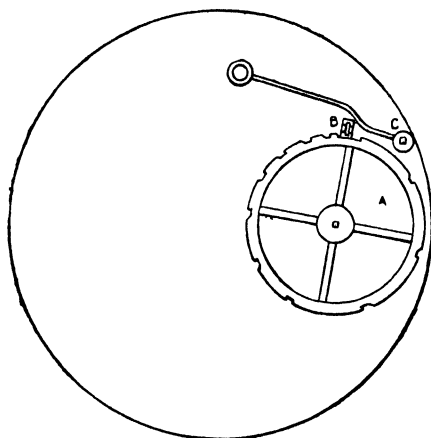

**Fig. 65.—Front View of Locking-plate Striking Work**
**French Locking-plate Striking Work.**—Two distinct kinds of striking work are in use in French clocks. The first, the "locking-plate" striking, is somewhat similar to the American striking mechanism. Fig. 65 is a view under the dial showing the discharging work, and Fig. 65A is a back view showing the locking plate.\*
Taking Fig. 65 first, A is the cannon pinion which turns once in an hour. In it are two pins, B, opposite each other. These two pins as they revolve lift the
Turning to Fig. 65A, A is the locking plate which is mounted outside the back plate, upon the extended arbor of the wheel J (Fig. 65), and turns once in twelve hours.
is a projecting stud, which is fixed to the arm which locks the striking train shown in Fig. 65 by the dotted lines. B comes through an opening in the back plate and rests upon the edge of A. When it is in a hollow of the locking plate, it prevents the wheel F (Fig. 65) revolving, but so long as B rests upon a high portion of A, the wheel F is free to revolve. The pins in the pin wheel are so arranged that one revolution of the wheel F is equivalent to one blow of the hammer.
strike. First of all the striking train is locked by the pin in F (Fig. 65) resting on the locking arm fixed to I, and B (Fig. 65A) is in a hollow of the locking plate. The pin in the warning wheel E is at the top, as shown in Fig. 65, and half a revolution from the warning lever D.
There it all rests until the pin B, still advancing, at last passes the point of the lever C, which lever then drops, and, of course, D also. This releases the warning wheel, and the striking runs and continues to do so until the piece B (Fig. 65A) drops into the next hollow in the locking plate, when it at once locks the train by coming into contact with the pin in the locking wheel F (Fig. 65).